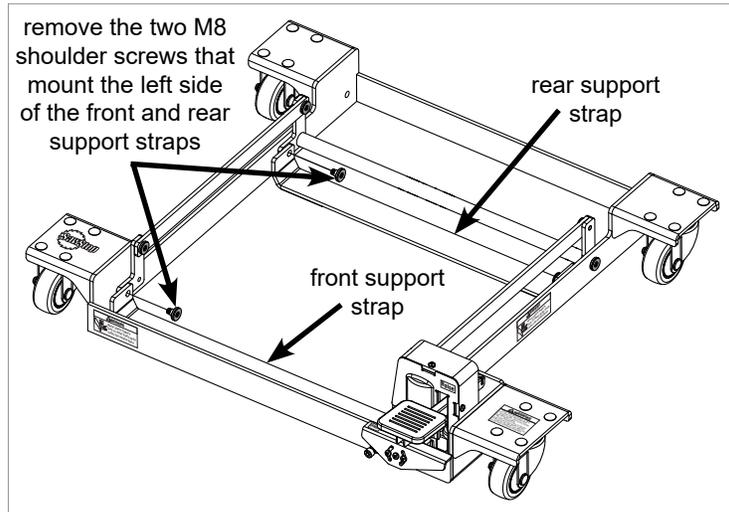
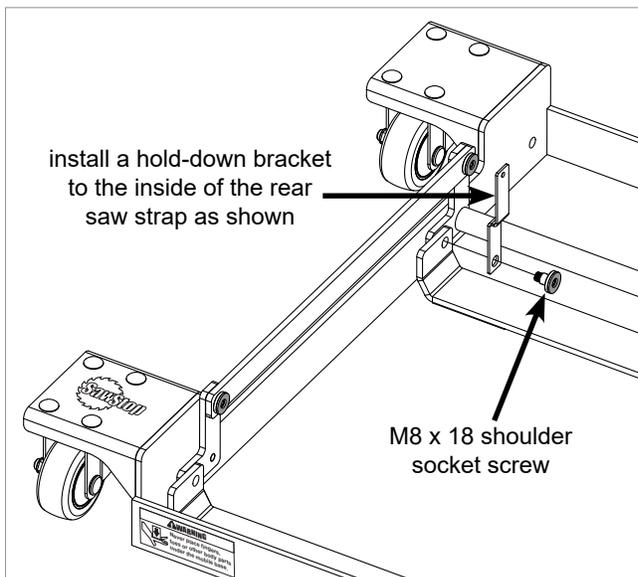
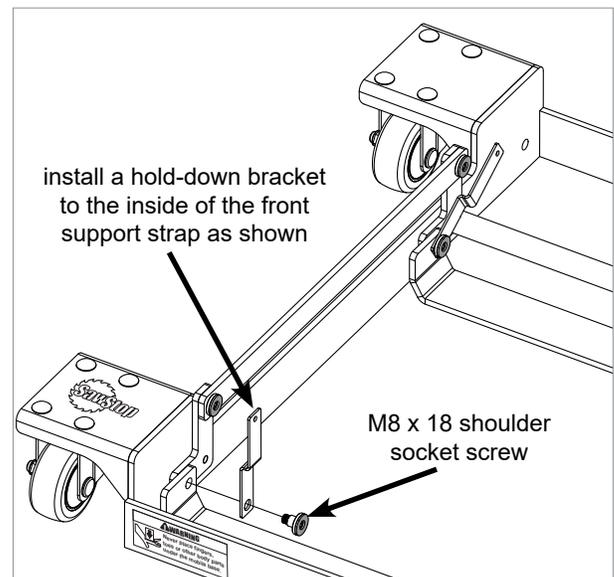

Fig. 6
Fig. 7a
Fig. 7b
- The conversion kit includes hold-down brackets to hold the saw in the mobile base. These hold-down brackets may already be installed on your mobile base. Refer to Fig. 7a and Fig. 7b for the location for each hold-down bracket. If these hold-down brackets are already installed, skip to step 8. If they are not already installed, you must now attach them. Begin by removing the two M8 shoulder screws that mount the left side of the front and rear support straps to the frame with a 5 mm hex key, as shown in Fig. 6. The shoulder screws may be difficult to remove because they were installed with a thread adhesive. The two M8 shoulder screws may be discarded.
- Locate the two hold-down brackets and the two M8 x 18 shoulder socket screws. Use one of the M8 x 18 shoulder socket screws to install one of the hold-down brackets to the inside of the rear support strap (see Fig. 7a). Note that the shoulder screw can only pass through the larger hole in the hold-down bracket and the hold-down bracket must be oriented so that it bends inward toward the center of the mobile base (see Fig. 7a). Use the remaining M8 x 18 shoulder socket screw to install the other hold-down bracket to the inside of the front support strap (see Fig. 7b). Fully tighten both screws using a 5 mm hex key.